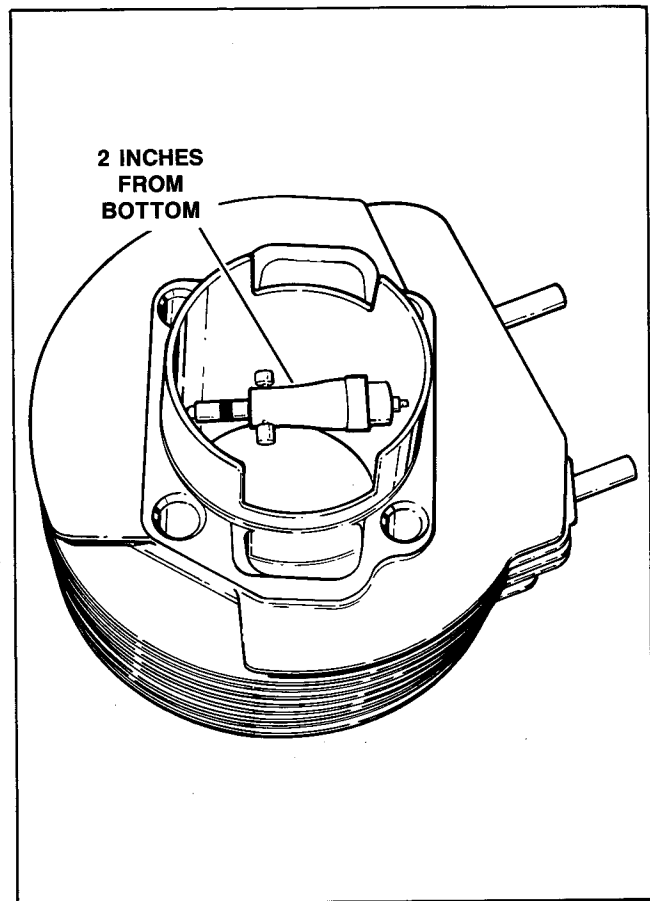

Figure 7-9 – Cylinder Bore Measurement
- c. See Figure 7-9. Take cylinder bore measurement 2 in. from bottom of bore, measuring from front to rear, then left to right. Record the measurements.